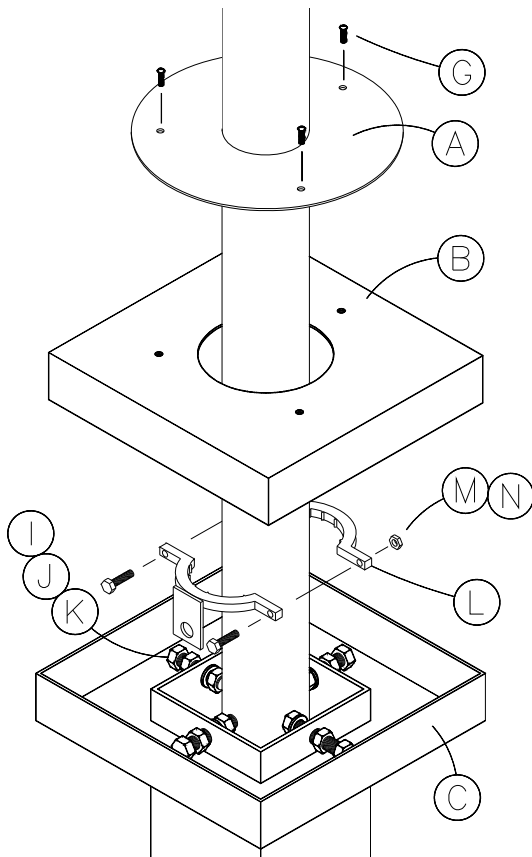

Figure 4
10. Tightly secure the gooseneck so that it is level and that the top section is parallel with the playing surface. (See Figure 4) Using the 3/8" *grade 8 bolt* (M), and the 3/8" *hex nut* (N) loosely secure the *anti rotation collar* (L).
11. Slide the *anti-rotation collar* (L), the *Pan cover* (B) and the *pole plate* (A) onto the gooseneck pole. (See Figure 4)
12. When you are confident that the gooseneck is positioned properly, loosen the front and rear 3/4" hex bolt (I). This will allow the holes in the anti-rotation collar to line up with the end of the hex bolts. Retighten the 3/4" hex bolt and jam nuts. Using the 3/8" *grade 8 bolts* (M), and 3/8" *hex lock nut* (N) tighten the *anti rotation collar* (L) to the gooseneck pole.
14. Using the 1/4" x 1/2" *self tapping screw* (G), secure the *pole plate* (A) to the *cover pan* (B) with the holes provided. If your socket is not perpendicular with the ground you may need to drill your own holes in the cover pan. Once the pole plate is fastened to the cover pan place the cover pan into the socket.
15. When you remove the gooseneck pole from the ground socket, you may want to install the *hole cover plate* (D). With the holes provided and using the 1/4" x 1/2" *self tapping screws* (G), secure the *hole cover plate* (D) to the *cover pan* (B).